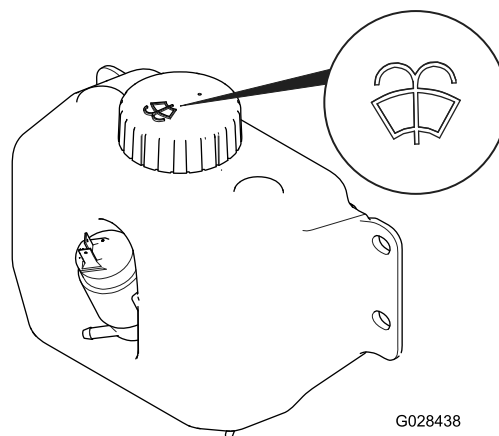

Figure 91
- Open the hood and locate the washer-fluid bottle (Figure 91).